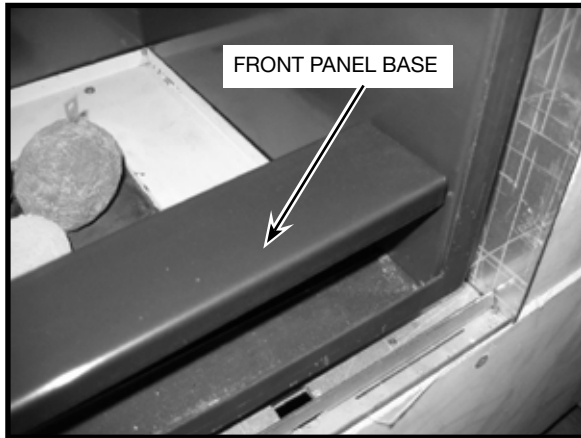

Figure 45: Front panel base.
1. Remove front panel base. Also remove rear panel base if Black Diamond Burner is fitted (Figure 45).